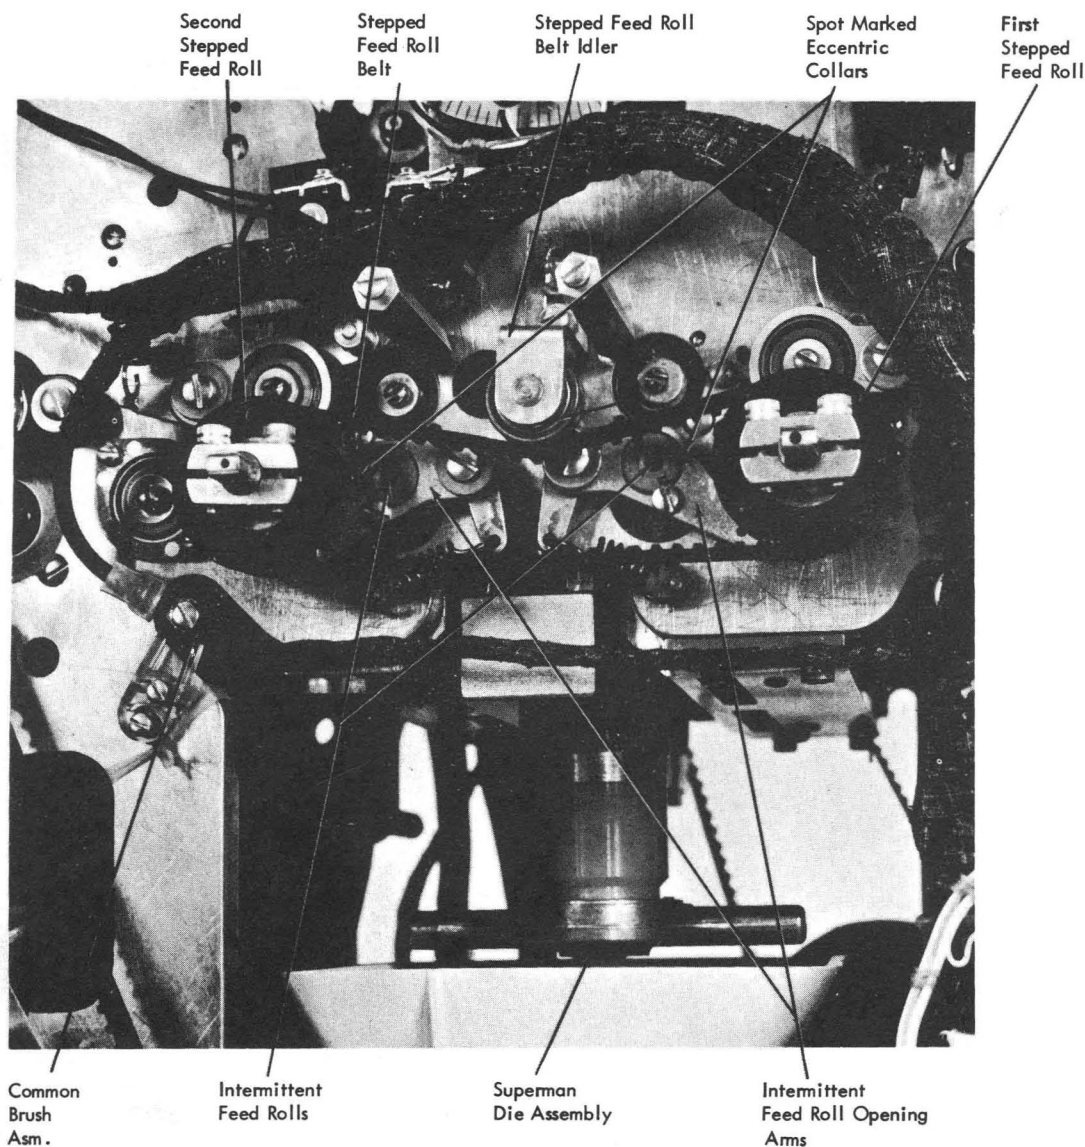

Figure 3-58. Intermittent and Stepped Rolls
5. Adjust eccentrics (only if necessary) at each end of the first, intermittent feed-roll shaft so that each card experiences a slight drag. Keep punch marks on the eccentrics facing punch marks on the intermittent feed roll, opening arms (Figure 3-58).
4. Adjust eccentrics (only if necessary) at each end of second intermittent feed roll shaft so that each card experiences a slight drag. Keep punch marks on eccentrics facing punch marks on intermittent feed-roll opening arms (Figure 3-58).